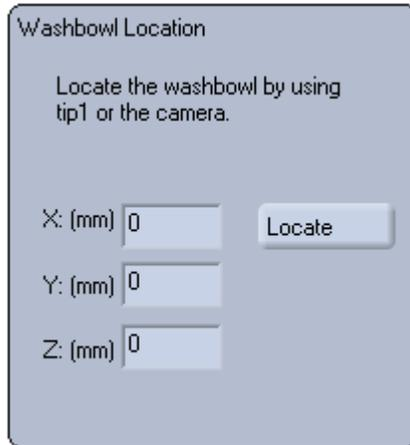

Figure 3-30. Washbowl Location Definition.
1. Click the **Locate** button within the **Washbowl Location** section of the page (Figure 3-30).